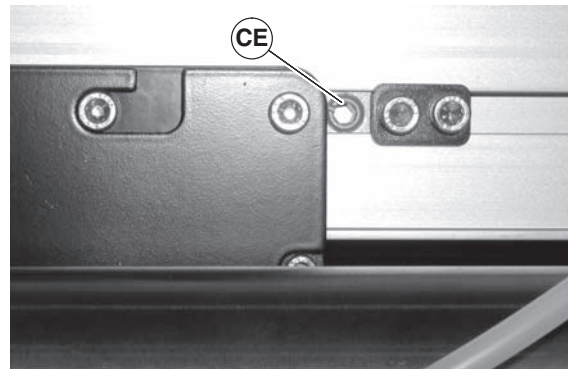

Figure 53
3. Rotate the tracking cam (Figure 53, item CE) in small increments, each time inspecting the belt as it exits the center drive. Continue to rotate the tracking cam until conveyor belt is tracking normally.